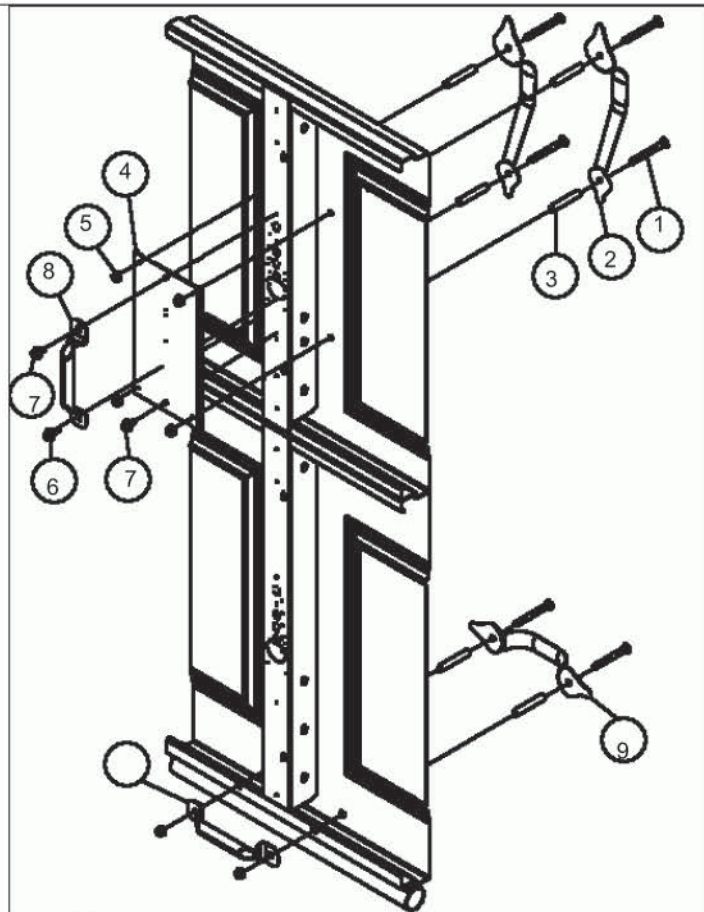

FIG. 8-A
Step 8-8: If you have a single handle as shown in FIG 8-B, skip to Step 8-7. Attach the handle backer plate (4) to the stile with two 3/4" hex head sheet metal screws (7) going into the center stile. The top sheet metal screw will also pass through the top hole of the roll bar handle (8). (FIG 8-A)
Step 8-9: Slide the black headed 1/4" carriage bolt (1) through the vertical spade handle (2), the handle spacer (3), the front of the section, the back of the stile or the handle backer plate (7), roll bar handle (8 if applicable) and finally secure with 1/4" flange nut (5). (FIG. 8-A or FIG. 8-B)
Step 8-10: Take a 3/4" hex head self-tapping screw (6) and drill it through the open hole of the roll bar handle (8) into the stile by passing through the hole in the handle backer plate (4 if applicable.) (FIG. 8-A or FIG. 8-B)